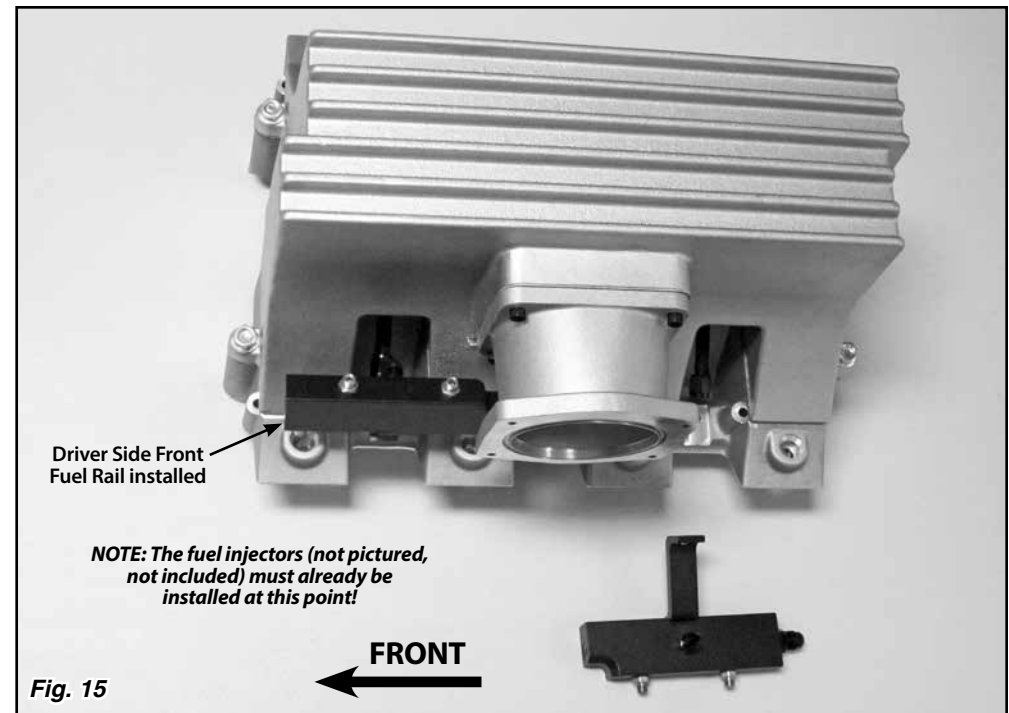

Fig. 15
**Step 16:** Position the injectors to properly orient the wiring plugs. Apply silicone lubricant to the bottom injector O-rings, and insert the injectors into the injector bosses in the lower manifold by applying gentle downward pressure on the fuel rail. **Fig. 15**
**Step 19:** Tighten the 1/4"-20 x 3/4" socket head bolts holding the fuel rail brackets in two steps. Tighten to 7 lb.-ft. for the first step, and to 12-15 lb.-ft. for the second step. Then, tighten the -4 AN fuel hard line nuts. **Figs. 15, 16, 17, and 18**